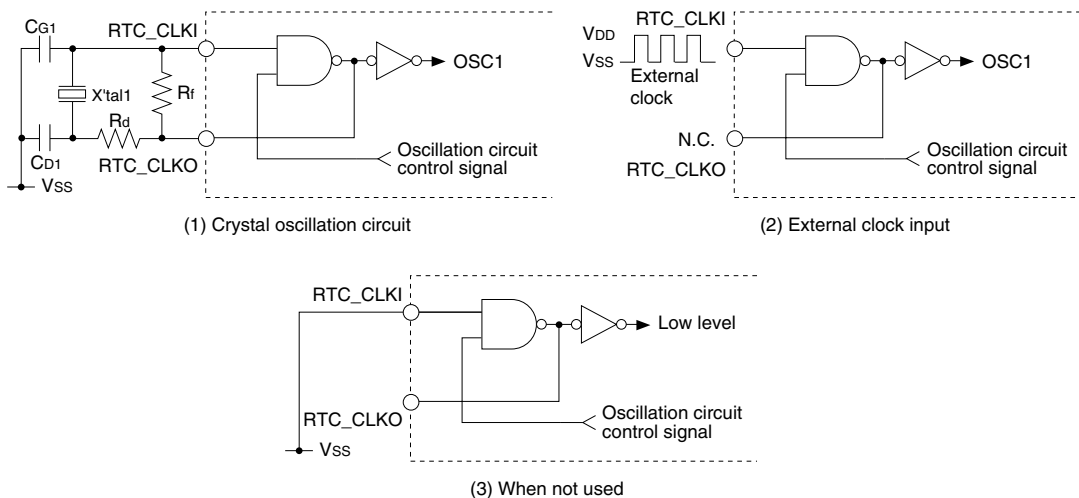

Figure III.1.5.3.1 OSC1 Oscillator Circuit
The OSC1 oscillator circuit accommodates a crystal oscillator and external clock input. The core voltage VDD supplies power for this circuit. Figure III.1.5.3.1 shows the structure of the OSC1 oscillator circuit.
For use as a crystal oscillator circuit, connect a crystal resonator X'tal1 (32.768 kHz, typ.), feedback resistor (R_f), two capacitors (C_{G1} , C_{D1}), and, if necessary, a drain resistor (R_d) to the RTC_CLKI and RTC_CLKO pins and V_{SS} , as shown in Figure III.1.5.3.1 (1).